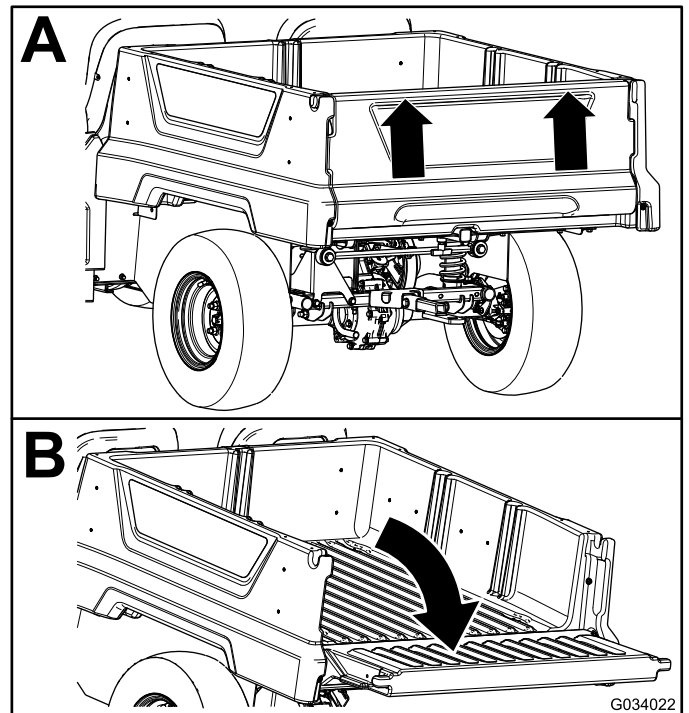

Figure 15
2. Using both hands, raise the tailgate using the ridge near the top of the tailgate (Figure 15).
3. Lower the tailgate until it is flush with the bottom of the cargo box (Figure 15).